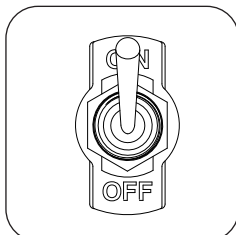

Fig. 22-2 Toggle switch
2. Flip the toggle switch to **ON** to ignite the burner (see Fig. 22-2). The valve will open and the burner will light.
To shut down the main burner (pilot will remain lit), flip the toggle switch to **OFF** (see Fig. 22-2).